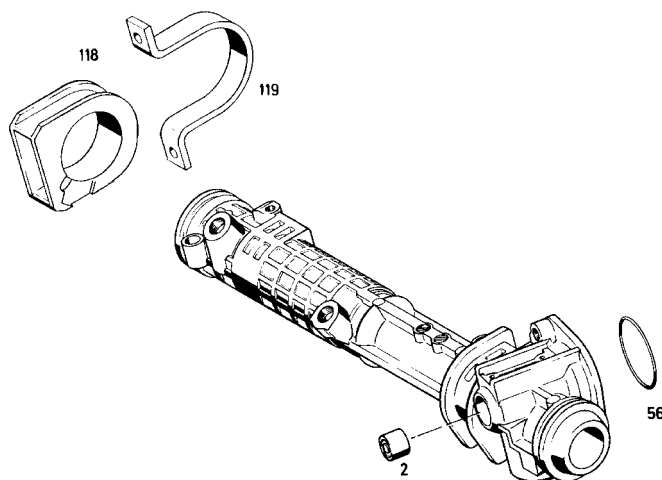

Fig. 12
Remove the O-ring (56) (**Fig. 12**).
If any wear is found on the journal of the rotary valve (81), measure the pressing-in depth (dimension X) of the needle bush (2) and write it down (**Fig. 12/13**).